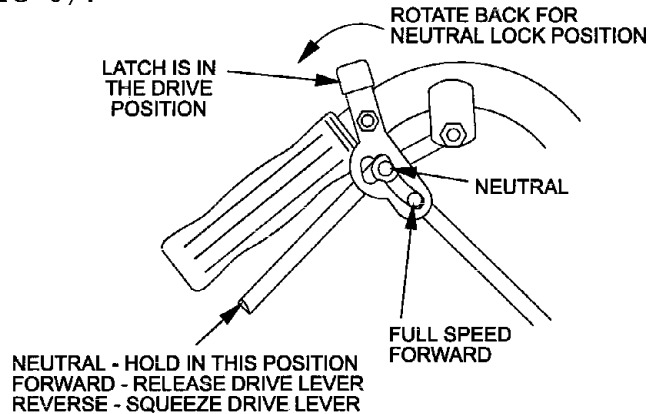

FIG. 6
- 4.1.3 Drive Levers: Located on each side of the upper handle assembly directly below the handle grips (See Figure 6). These levers individually control the speed and direction of each drive wheel. When the speed control lever is moved out of the neutral position and the lock latches are moved into the drive position, as shown in Figure 6, and the drive levers are released, the drive wheels are engaged in the forward direction.
- 4.1.4 Neutral Lock Latch: Located directly above the drive levers. These latches allow the operator to lock the drive levers in a "neutral" position where neither of the drive wheels are engaged in either a forward or reverse direction (See Figure 6).
(Do Not squeeze the drive levers all the way back as this will cause the drive wheels to go into full reverse direction) Place thumbs on the upper portion of the neutral lock latches and move them to the rear. Release drive levers (See Figure 6).